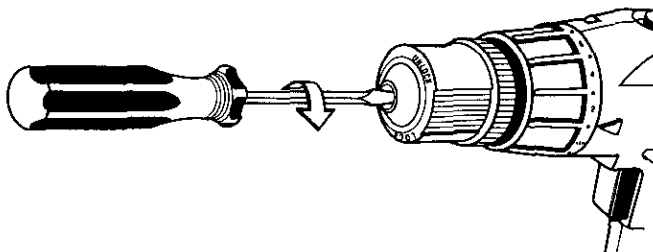

Fig. 15
- Open chuck jaws and remove wrench. Remove the chuck screw by turning it in a clockwise direction. See Figure 15.